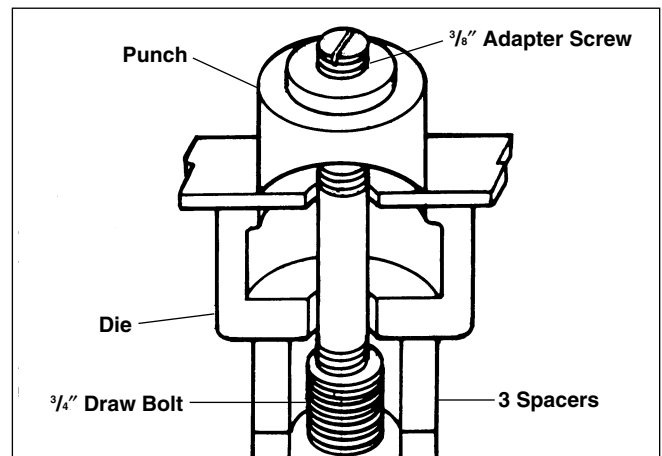

Figure 3 – Punching 1/2" Holes
5. Place the 1/2" die over the 3/8" draw bolt, pass the end of the bolt through the previously drilled pilot hole and thread the punch on the end of the bolt so that the points just touch the material (Figure 3). Operate the pump as described below.